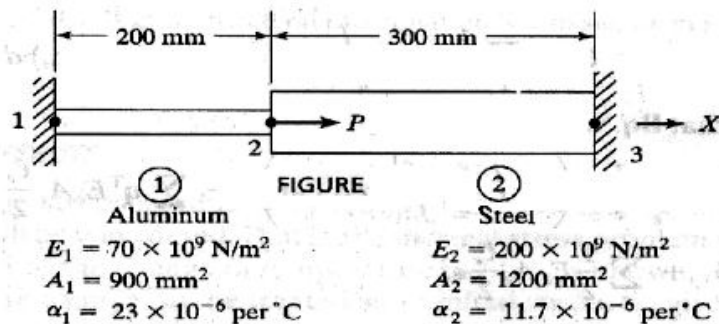

Figure.3
4. An axial load $P=300\text{KN}$ is applied at 20°C to the rod as shown in Figure 3 below. 12M